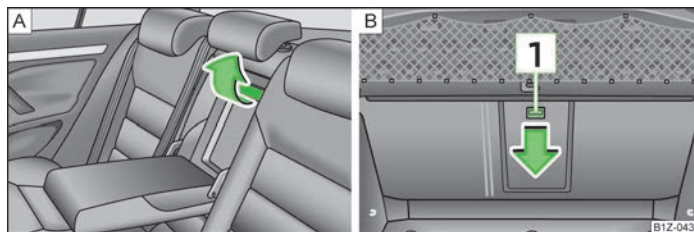

Fig. 81 Rear seats: Cover handle/boot: Unlock button
- Pull the handle upwards to the stop » Fig. 81 - **A** and fold the cover down.
- Push the unlock button **1** » Fig. 81 - **B** down and fold the cover (including the armrest) forwards.
Ensure that the armrest is always locked into place after closing. This is apparent as the red field above the unlocking button **1** » Fig. 81 - **B** is not visible from the luggage compartment.